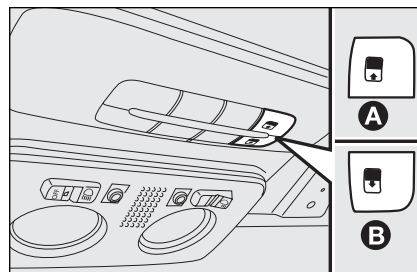

fig. 77
To close them reverse the above procedure. Sunroof only works with ignition key at **MAR**. Controls **A** and **B-fig. 77** set on the special panel near the ceiling light shall be used to open/close the sunroof.
Press button **B-fig. 77** and hold down to move the front glass panel to spoiler position. Press button **B** again and hold down the control for longer than half a second to start the movement of the sun-roof glass, which will continue automatically to an intermediate position (“Comfort” position).
When in fully opened position, press button **A-fig. 77** and if the button is operated for longer than half a second, the roof front glass will automatically move to intermediate position (“Comfort” position).
- Press button **A**-fig. 77 until the roof is fully closed. Release the button;